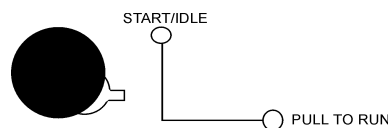

Figure 21. Engine Throttle Lever (high)
11. Let the engine warm up for a few minutes. Then pull and turn the throttle lever to the right to set the engine speed to 'high' (Figure 21).